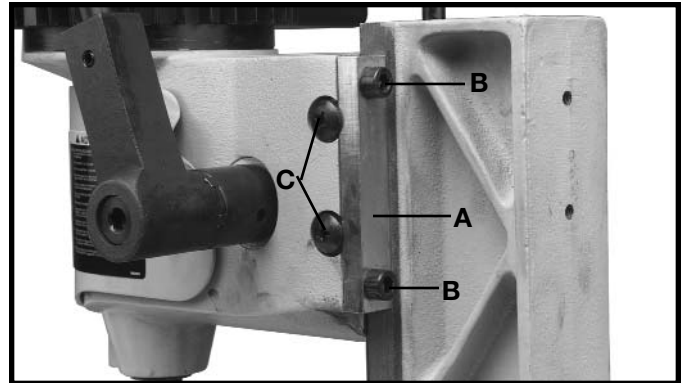

Fig. 27
A dovetail gib (A) Fig. 27, is provided on the rear of the head to insure a good sliding fit between the head and the column when the head is raised and lowered. Adjustment is made by loosening the two screws (B) and turning adjusting screws (C). Then tighten two screws (B). **NOTE:** Correct adjustment is when a good snug sliding fit is obtained without any side movement between the gib and the column. This adjustment should not be too tight that it restricts the sliding movement or too loose that it affects accuracy.